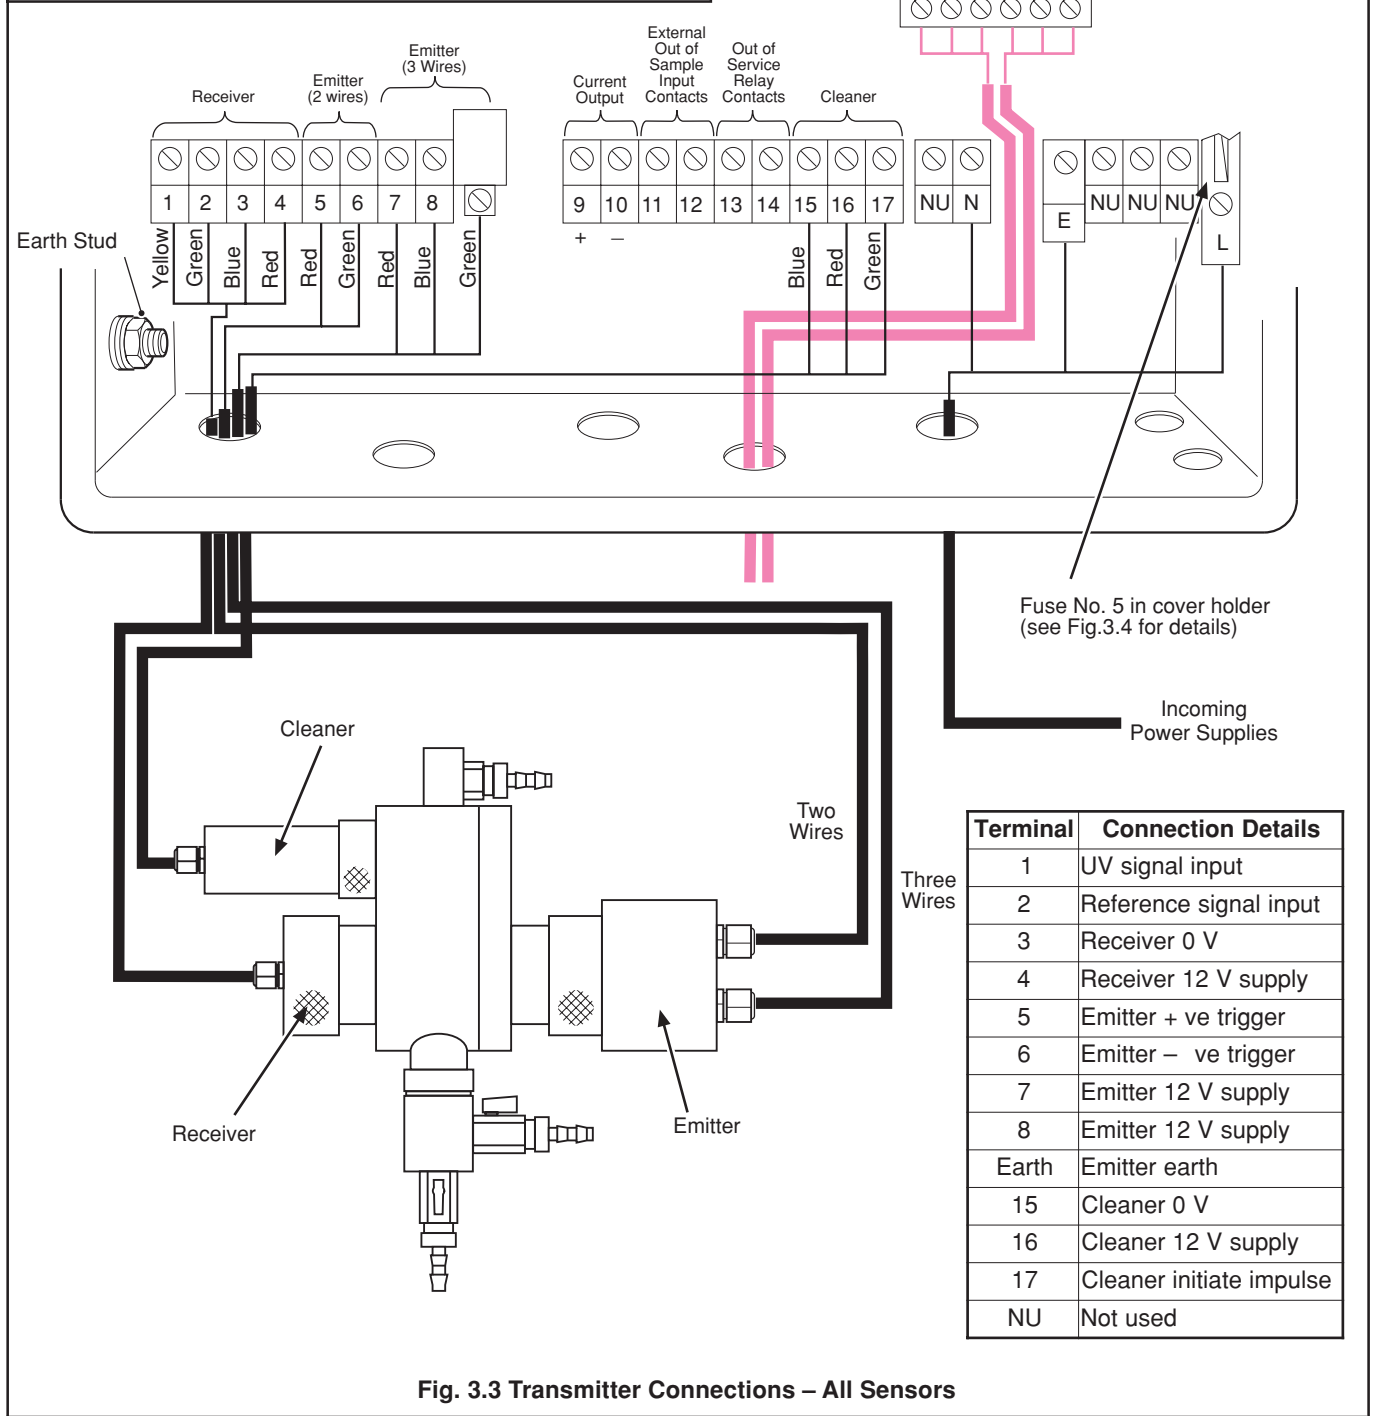

Fig. 3.3 Transmitter Connections – All Sensors
- **Earthing (grounding)** – stud terminal(s) is fitted to the transmitter case for bus-bar earth (ground) connection – see Fig. 3.3.
3.3 Transmitter Connections – Fig. 3.3
Up to two alarm relays can be provided with connections to the single set of contacts for each alarm – see **Fig. 3.3**. Alarms can be connected using suitable signal cable.